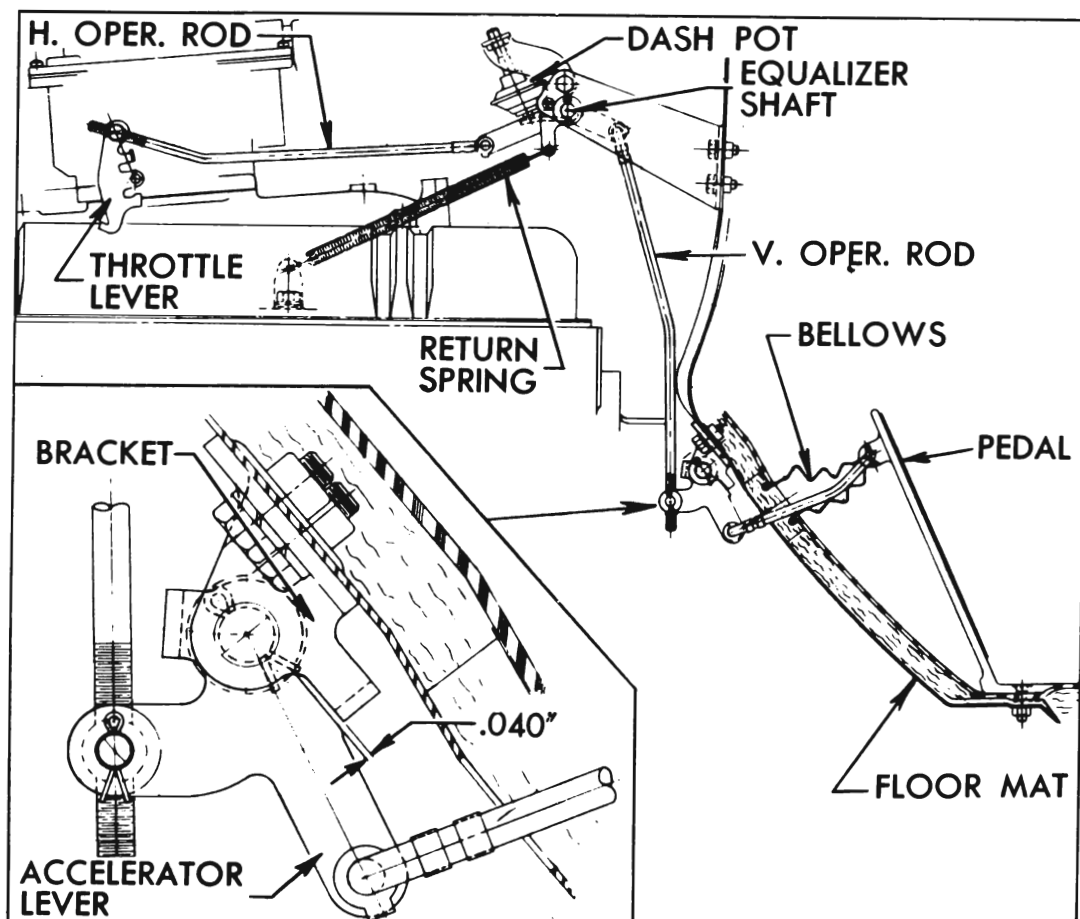

Figure 3-9—Throttle Linkage Adjustments
5. Clearance should be .040" ($\frac{3}{64}$ ") to permit proper closing of throttle valves to hot idling position. Disconnect upper end of the vertical throttle operating rod and adjust the rod as required to obtain specified clearance. See figure 3-9.